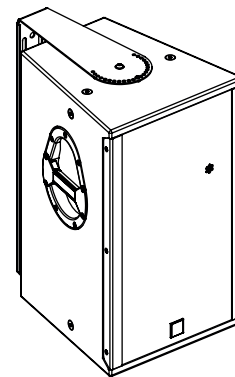

Fig.2
- Step 4:** Rotate the loudspeaker into the desired direction (in 10° steps), and insert the locking screw through the arm of U-Bracket. Then tighten the side screws permanently. (See figure 2)